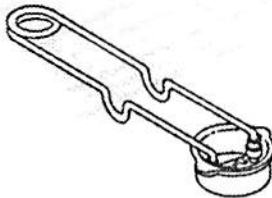

FIGURE 9
•You will need a standard striker (fig. 9) that catches a small pocket of gas to ignite the torch.